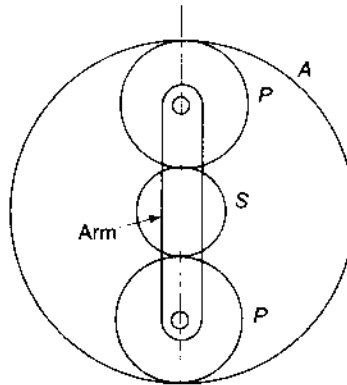

Fig.12.25 Epicyclic gear train
- 4 An epicyclic gear train, as shown in Fig.12.25, has a sun wheel *S* of 30 teeth and two planet wheels *P* of teeth 50 each. The planet wheels mesh with the teeth of internal gear *a*. The driving shaft carrying the sun wheel transmits 6 kW at 300 rpm. The driven shaft is connected to an arm which carries the planet wheels. Determine the speed of the driven shaft and the torque transmitted, if the overall efficiency is 95%.